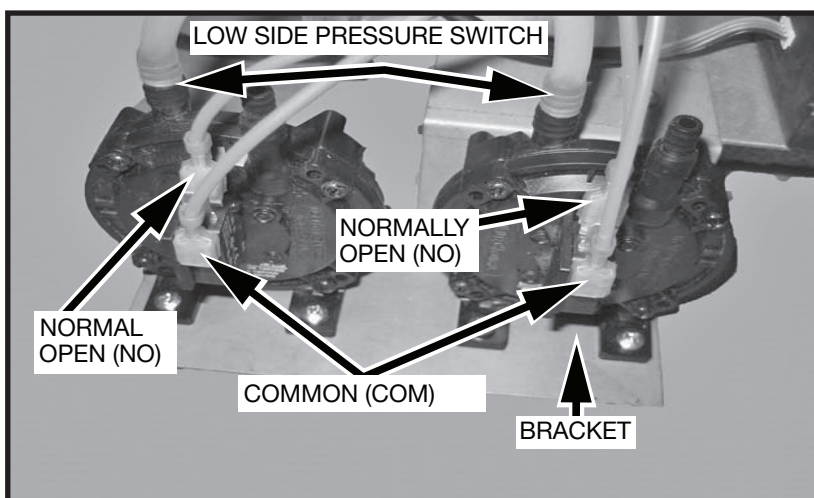

Figure 15: Pressure switches.
11. Secure the pressure switch in the control box using the bracket provided with this kit (Figure 15).